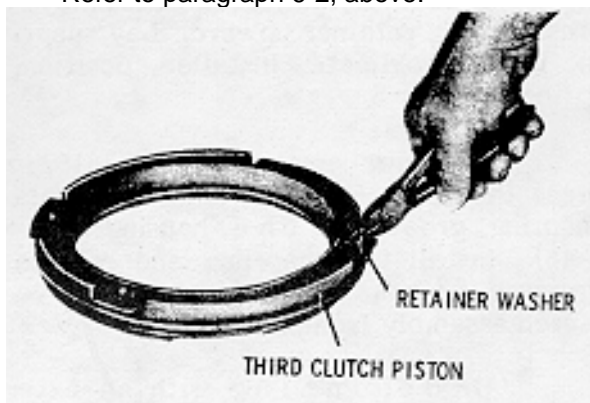

Fig. 6-50. Removing self-locking retainer washers
(1) Remove pistons 9 and 18 with attached parts, from center support assembly 13.
(2) Remove eight retainer washers 6 and 21. Cut the retainer washers to prevent damaging the piston projections (fig. 6-50).
(3) Remove spring retainers 7 and 20. Remove twenty-four piston return springs 8 and 19.
(4) Remove piston inner sealring 10 and 17 from pistons 9 and 18.
(5) Remove piston outer sealring 11 and 16 from piston 9 and 18.
(6) With the center support and bushing assembly 13 standing upright, remove the two hook-type sealrings 12.
(7) If part replacement is necessary, place support and bushing assembly 13 in a press, sealring grooves side up. Press bushing 14 out of the support, being careful not to damage bushing bore.